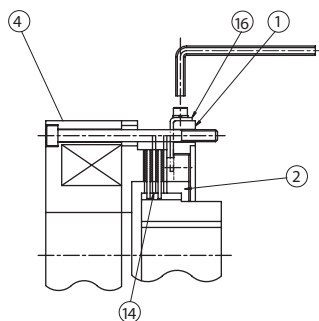

Figure 8-39
- (1) Manually release the brake following the procedure on P90.
- (2) Loosen the stopper [16] on the periphery of the center ring [1], and remove. This will free the gap adjusting screws [2]. (See Figure 8-39)